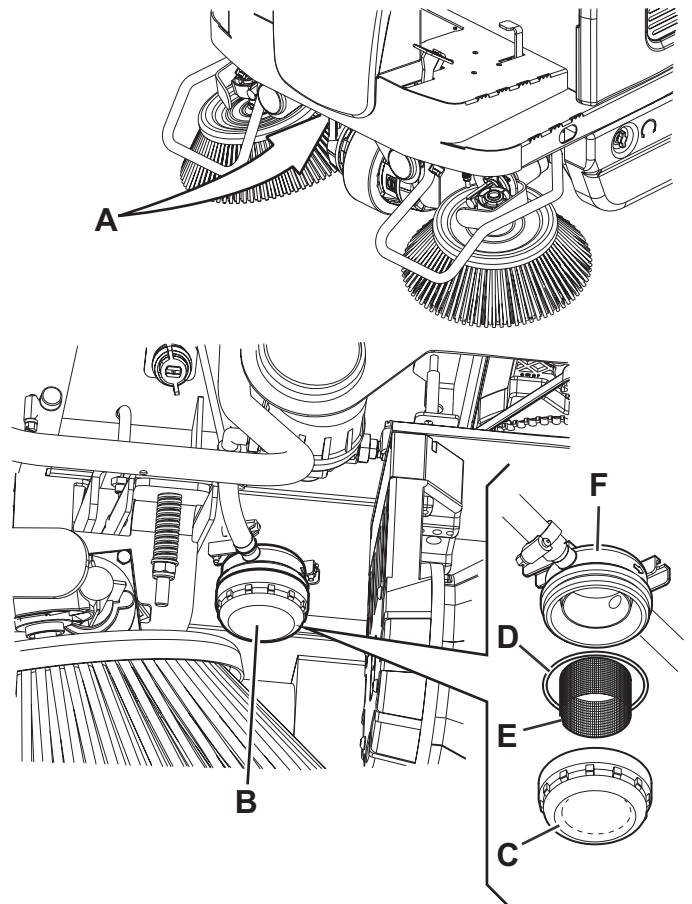

Figure 20
2. Turn the ignition key (61) to "0" and engage the parking brake.
3. From under the machine (A, Fig. 20), reach the water filter assembly (B) of the dust guard system.
4. Unscrew and remove the transparent cover (C) with the gasket (D), then remove the filter strainer (E).
5. Clean and install them on the holder (F).
- (B): F1 vacuum system motor fuse (25 A).
- (C): F2 filter shaker motor fuse (25 A).
- (D): F3 display electronic board fuse (3 A).
- (E): F4 main fuse (key circuit) (10 A).
- (F): F5 dust guard system fuse (5 A) (optional).
- (G): F6 hopper lifting fuse (25 A).
7. Remove the screws (H, Fig. 20), then remove the cover (I) of the electrical component box (49).
- (J): FA main broom motor fuse (50 A).
- (K): F0 main fuse (150 A).